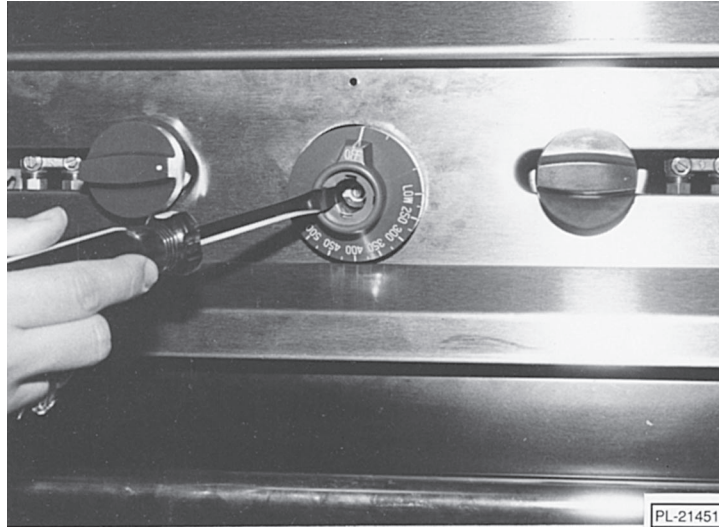

Fig. 20
10. To recalibrate, hold the thermostat dial in place. Insert screwdriver into dial shaft to engage the calibration stem adjustment screw (Fig. 20). Push inward (do not turn stem).
5. Place a screwdriver into thermostat dial shaft, engaging adjustment screw "A" (see Fig. 20).